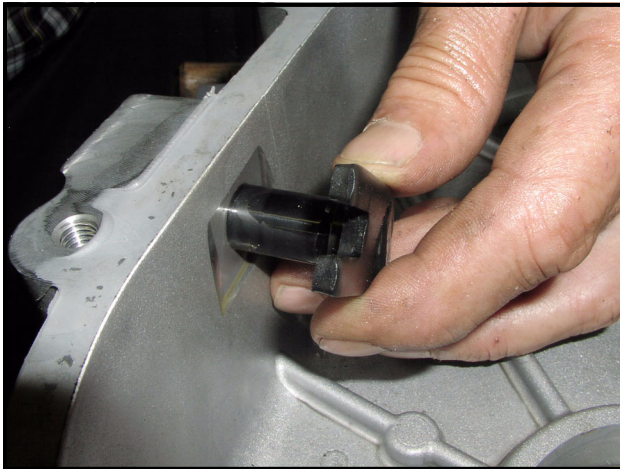

Figure 8-43 Shifter Shaft and Fork
3. Slide the shifter shaft and fork to the inside of the case and remove the shaft (**Figure 8-43, Page 8-14**).